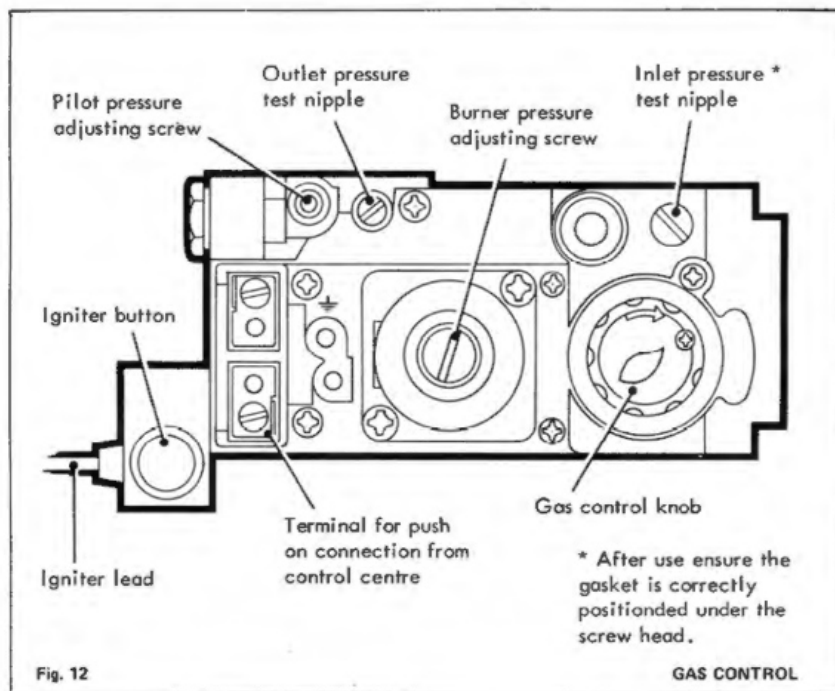

Fig. 12
The gas consumption should be checked on first commissioning the boiler. Table 2 indicates the appropriate manifold pressures and the method of calculating the required consumption. If an adjustment is necessary, first remove the protective screw cap (Fig. 12) on the gas control valve and then adjust the screw in or out to increase or decrease the consumption respectively. Allow the burner to warm up thoroughly before making the adjustment.
1. Remove the screw from the gas control outlet pressure test nipple (see Fig. 12) and securely connect a suitable gas pressure gauge with flexible tubing. Check that the main gas cock (F) is open. Ensure that the boiler thermostat knob (A) is at "off". Turn the gas control knob (C) clockwise until resistance is felt and then release it. Wait for three minutes. Check that the gas and electricity supplies to the appliance are turned on and that all external controls fitted to the system are "on". Loosen the wing nuts (E) and slide up the sight-glass (D). Insert a lighted spill through the sight-glass opening and position the flame near the pilot burner. Push in the gas control knob (C) and hold it depressed. Keep the lighted spill in position until the pilot burner lights. When the pilot burner has lit, continue to hold down the gas control knob for a further 20 seconds. Should the pilot burner go out at this or any other stage, turn the gas control knob (C) clockwise and release it;
Adjust if necessary. The adjuster is on the gas control (Fig. 12).
After the boiler has lit, allow it to operate for ten minutes to stabilise the burner temperature. Then adjust the burner pressure if necessary to the value given in Table 2 for the boiler output required. The burner pressure adjusting screw is located on the gas control (see Fig. 12) and is turned clockwise to increase and anti-clockwise to decrease the gas pressure. When disconnecting the gas pressure gauge be sure to replace the sealing screw in the pressure test nipple on the gas control.
2. The pilot flame is about 25 mm (1") long (to adjust, turn the adjuster screw clockwise to decrease or anticlockwise to increase the pilot flame length). The position of the adjuster screw is shown in figure 12.
Table 2 gives details of rated boiler output with related manifold gas pressure and heat inputs. The location of the manifold pressure adjustment screw on the gas control is shown in Figure 12.
Reconnect the pilot pipe and thermocouple. Refit the burner to the boiler and reconnect the gas union, and the electrical leads to the gas control (Fig. 12)